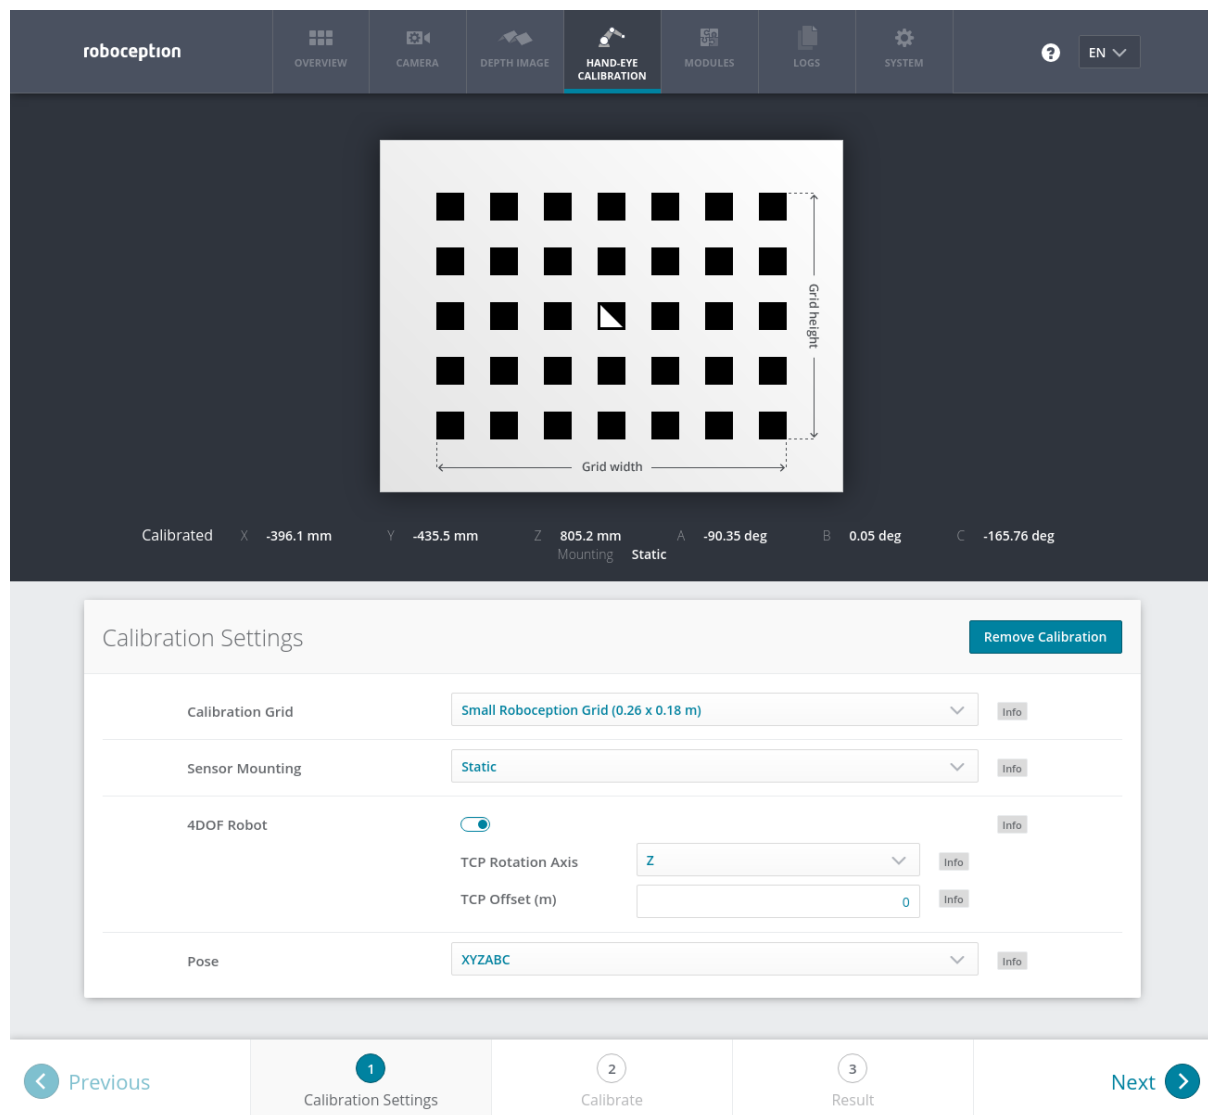

Fig. 5.10: Defining hand-eye calibration settings via the *rc\_cube*'s Web GUI
**Web GUI example:** The Web GUI offers an interface for entering these parameters during the first step of the calibration routine as shown in Fig. 5.10. In addition to grid size and camera mounting, the